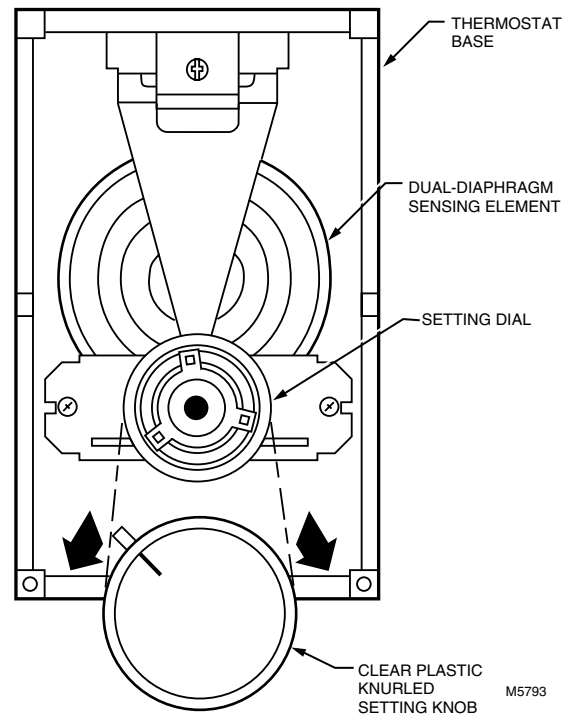

Fig. 5. Calibrating thermostat.
- 4 Remove the clear plastic knurled setting knob. See Fig. 5.